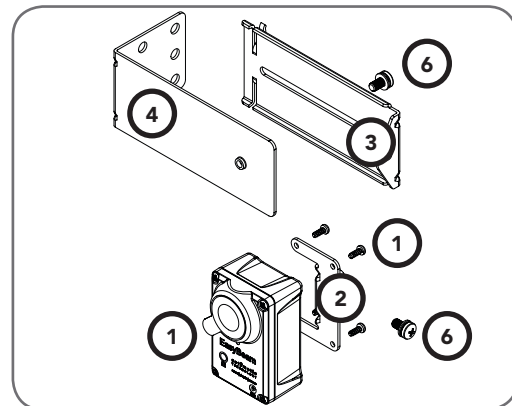

Fig 8.1
- Attach the mounting bracket ④ to the adjustment bracket ③ with the pan head screw ⑥. (Fig. 8.1)